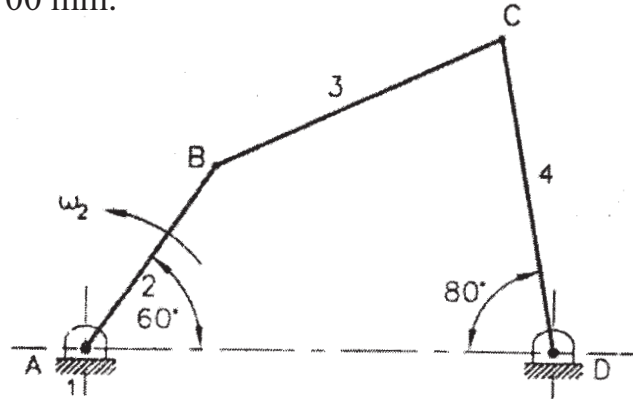

Fig. 03
- b)** The four bar mechanism ABCD as shown in fig. 03, which is driven by link AB at 12 r/s, counterclockwise. Find the angular velocity of link BC and DC using complex algebra method. $AB = 50\text{mm}$, $CD = 56\text{ mm}$, $AD = 100\text{ mm}$. [8]